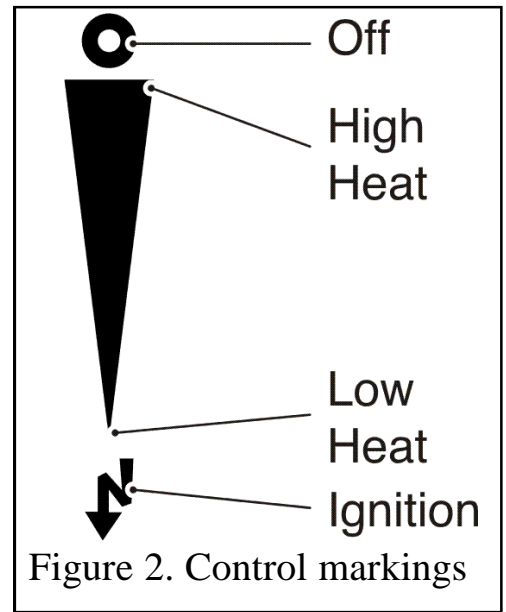

Figure 2. Control markings
The control markings are shown in figure 2.
- If low heat is required, release the button. The button will automatically spring up to the low heat position shown in figure 2 (See note i).
- For a higher heat level slide the button upwards. The burner flames and heat output will gradually increase until the button reaches the high heat position shown in figure 2. When the button reaches the high heat position you will feel a check to its movement. Do not slide the button above the high heat position unless you want to turn the fire off (See note i).